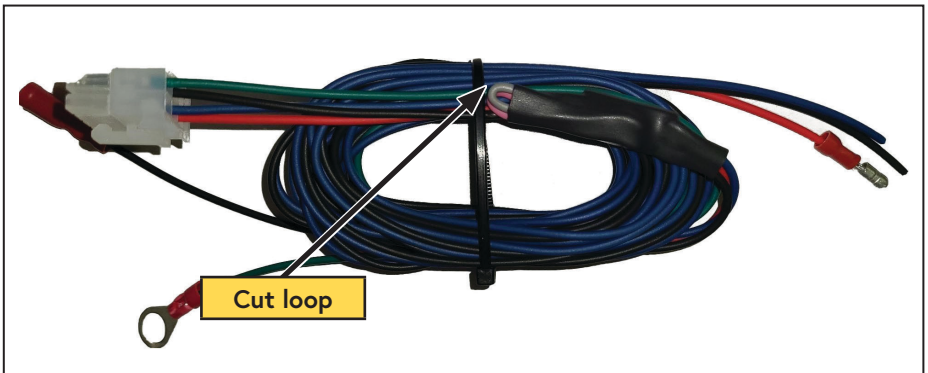

Figure 39 — Disable pull up harness
- Digital throttle control only:** Cut the loop of grey wire from the black module on the DTC main harness (Figure 39).